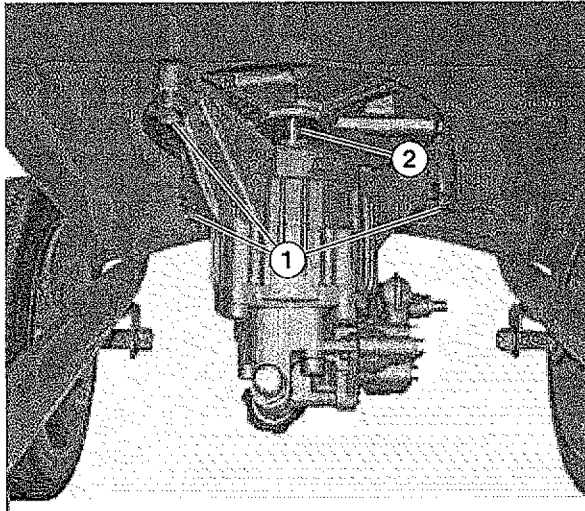

Figure 72 – Pump/Engine Mounting Bolts WP2500 Shown
2. Remove the 3 mounting bolts and washers holding the pump to the frame (*see Figure 72*).
- Slide the pump down off of the crankshaft (see Figure 72).